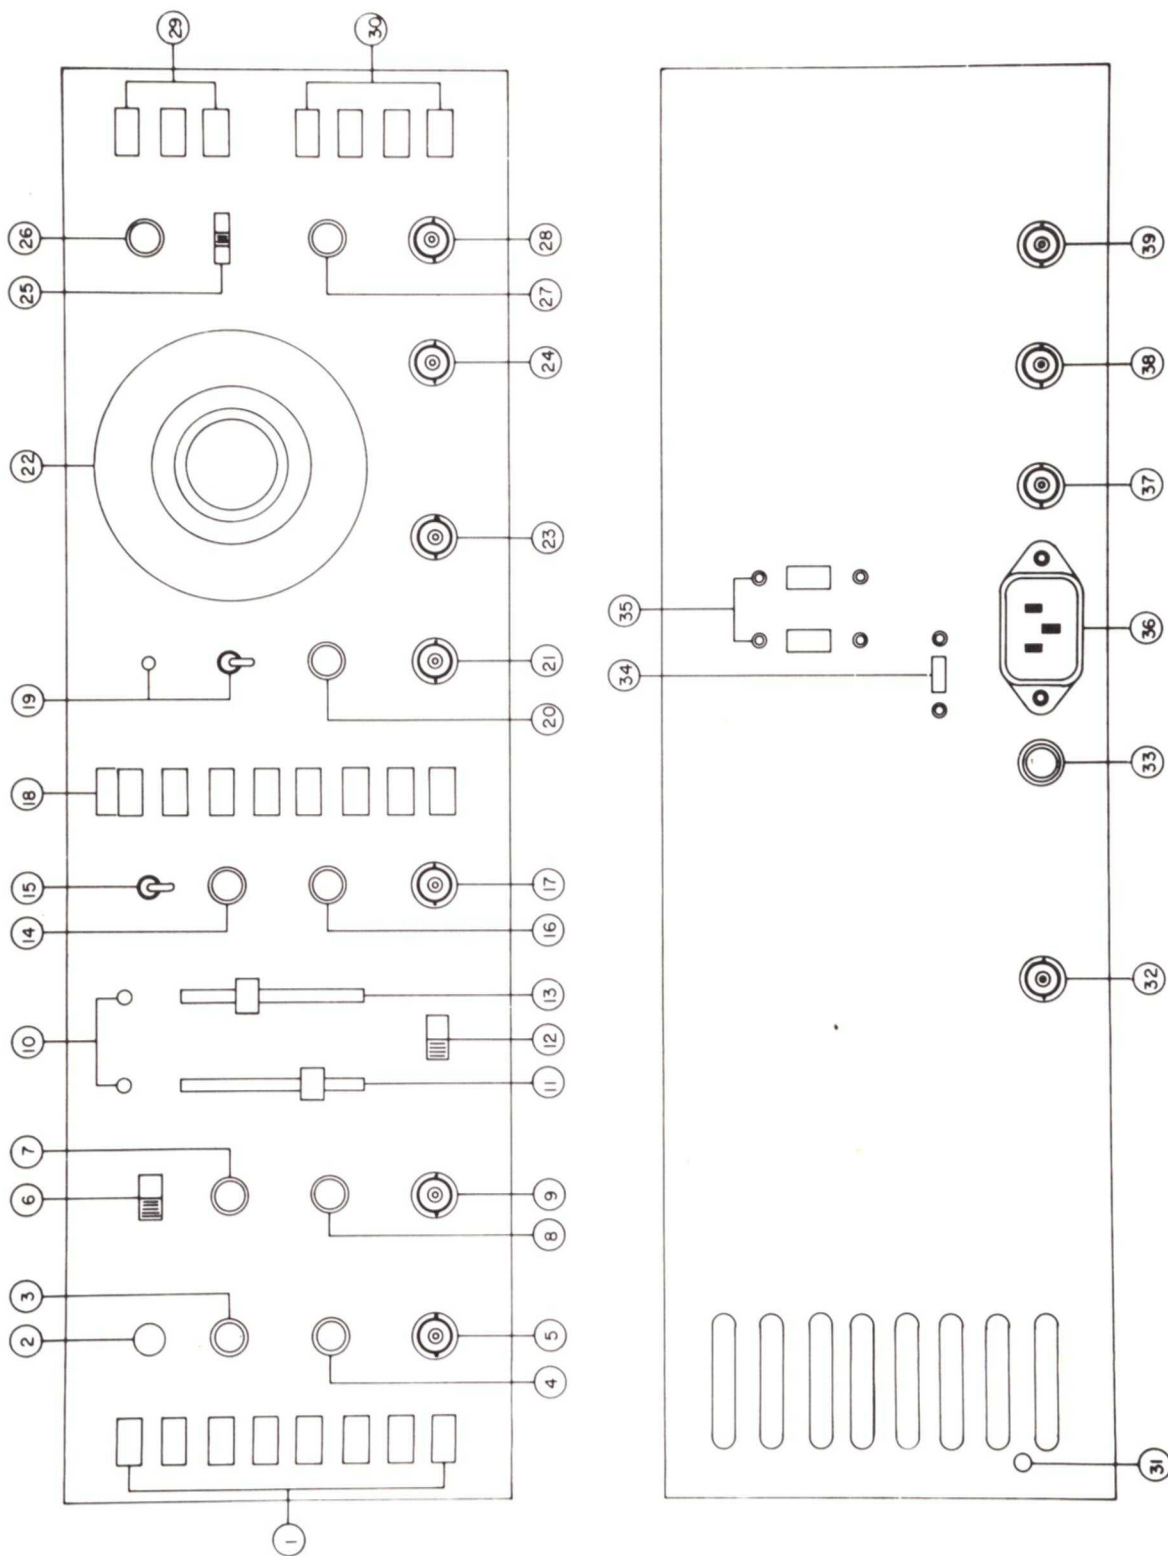

Figure 3. Operating Controls, Connectors and Displays
2.2 OPERATING CONTROLS, CONNECTORS AND DISPLAYS (See Figure 3)